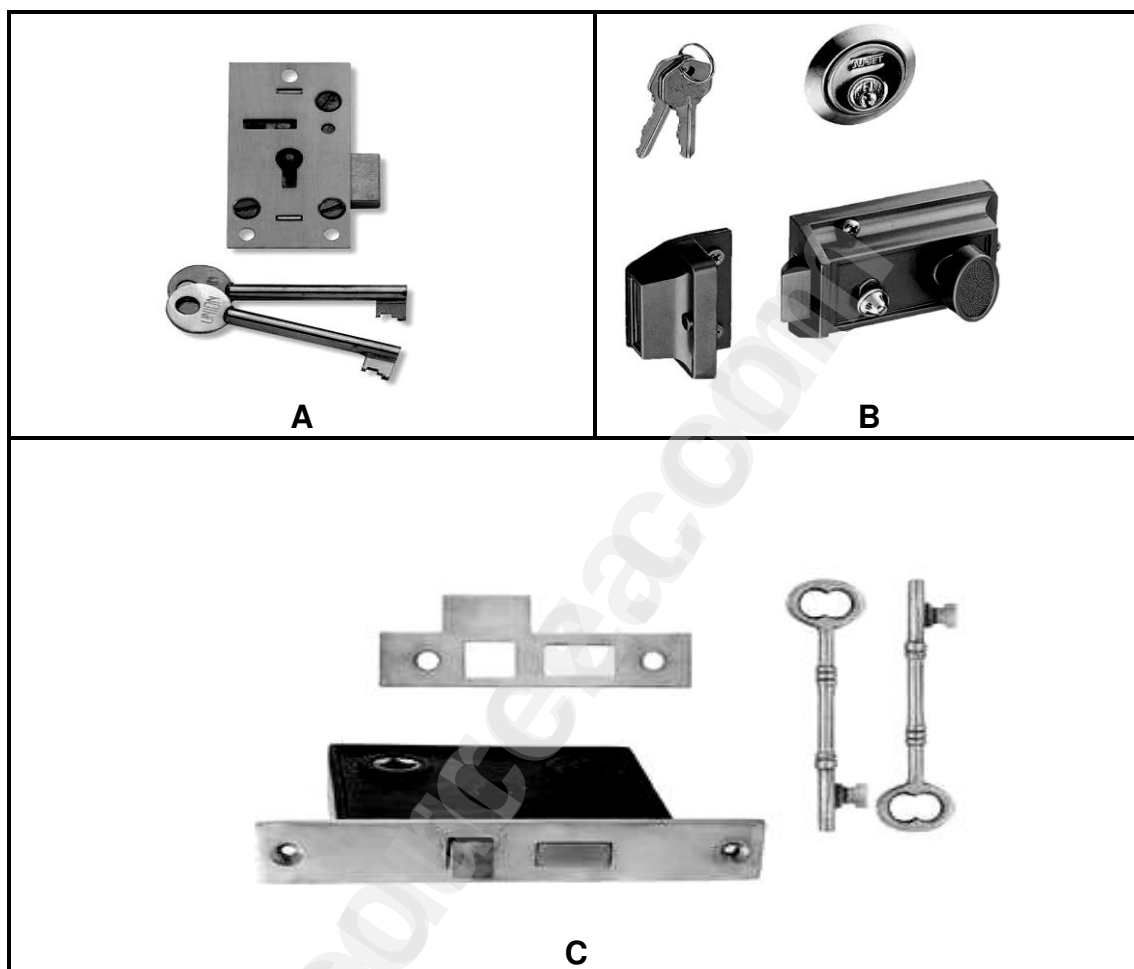

FIGURE 6.3
- 6.3 FIGURE 6.3 below shows THREE types of locks used in the building industry. Study the pictures and answer the questions that follow.